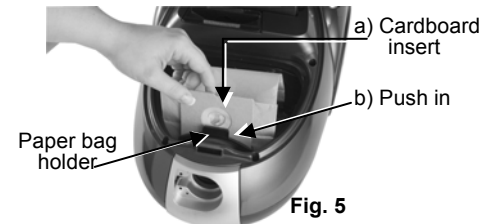

Fig. 5
3. To insert a new dust bag slide the cardboard collar end with the slot into the matching slot on the holder (a). Cardboard should be behind the (2) two securing tabs on holder. Press the paper bag holder (b) toward the front of the unit and make sure that the paper bag is locked in place. (Fig. 5)